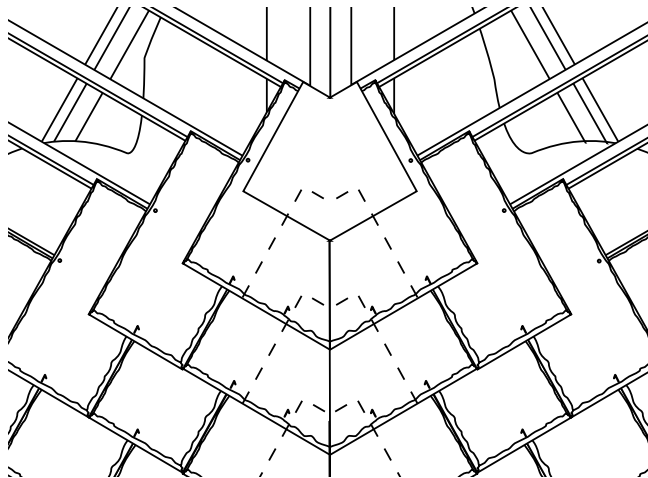

Fig. 24 - Close mitred hip with lead soakers
- 2 Fix roofing battens to the hip rafter and align on each slope. Insert lead soakers in every course up the hip [Fig. 24].